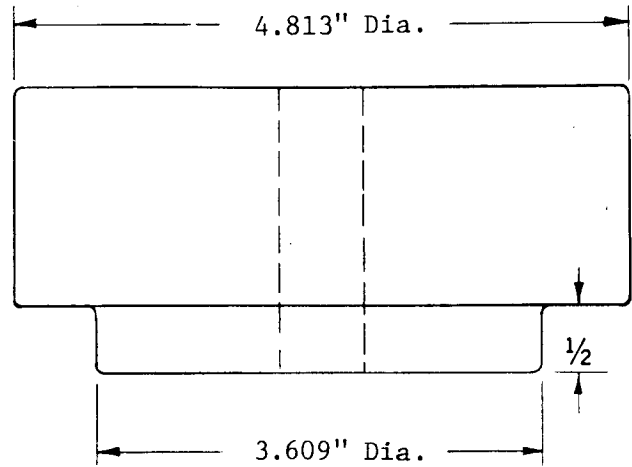

FIG. 110
3. Coat outside diameter of oil seal with Permatex No. 2. Lubricate lip of oil seal with Lubriplate. Press in or drive oil seal into hub using suitable driver (Fig. 109). Figure 110 shows driver dimensions. Position oil seal in bore with "Oil Side" marked on seal toward inside of hub. After installing seal, install seal protector.